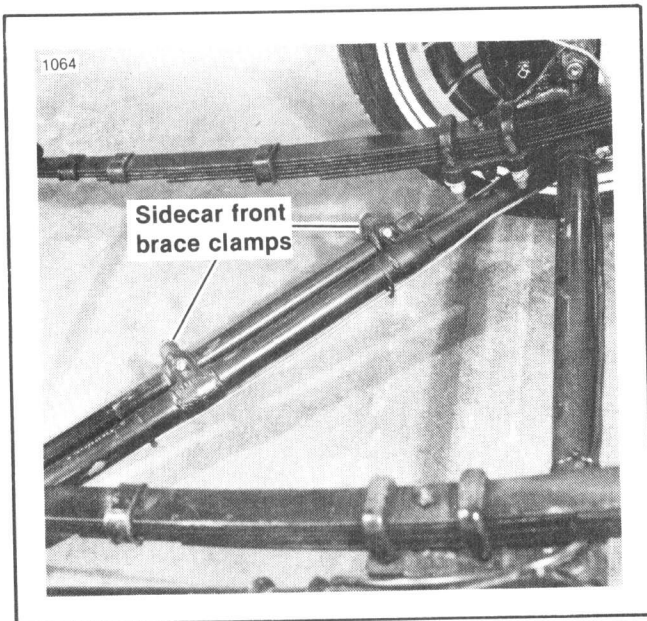

Figure 6-3. Sidecar Front Brace Clamps
6. See Figure 6-3. Loosen sidecar front brace clamps on sidecar chassis.
2. See Figure 6-3. Adjust sidecar front brace forward or backward in clamps so motorcycle leans approximately 2° away from sidecar. The angle can be measured with the protractor used in Step 1. Tighten front brace clamps (Figure 6-3) to 25 ft-lbs torque.
5. See Figure 6-3. Loosen sidecar front brace clamps on sidecar chassis.
2. See Figure 6-3. Adjust sidecar front brace forward or backward in clamps so motorcycle leans approximately 2° away from sidecar. This can be measured with protractor specified in Step 1.
Tighten front brace clamps (Figure 6-3) to 25 ft-lbs torque. Tighten front upper connection to 70-80 ft-lbs torque.